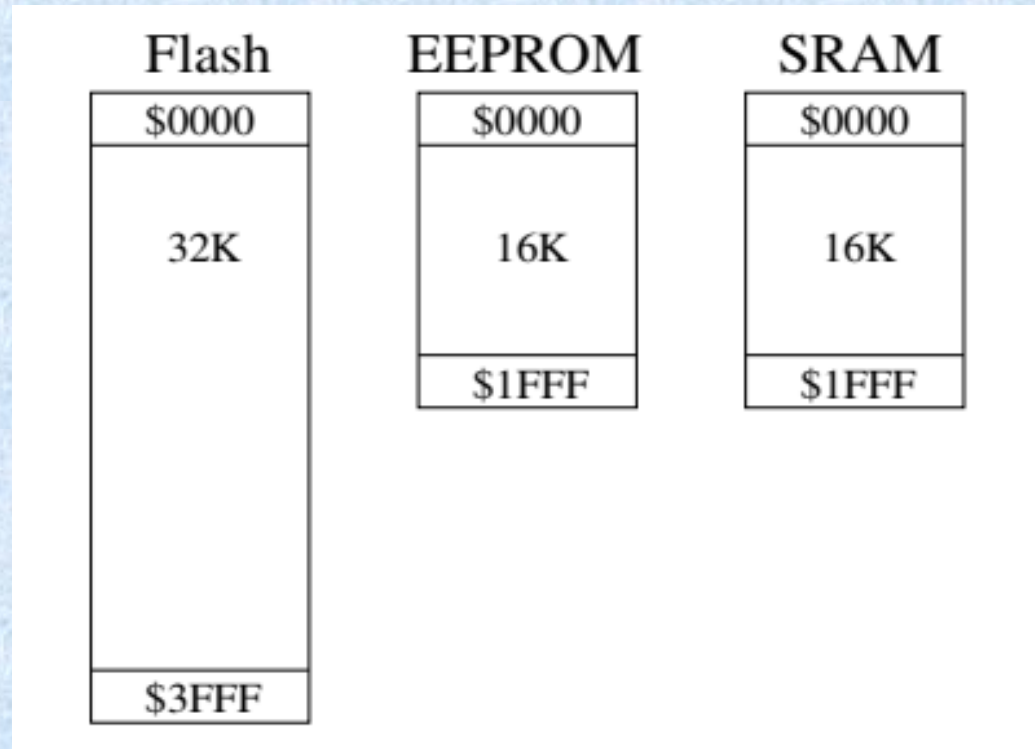

Fig. 3.4 Separate Memory Addressing.
1. Each memory is addressed separately, see Figure 3.4 (e.g. ATmega16).